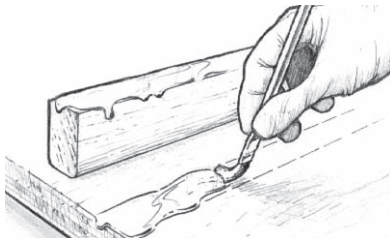

Figure 9 Apply resin/hardener mixture to the bonding surfaces.
1. **Wet-out bonding surfaces**—Apply an unthickened resin/hardener mixture to the surfaces to be joined (Figure 9). Wet out small or tight areas with a disposable brush. Wet out larger areas with a foam roller or by spreading the resin/hardener mixture evenly over the surface with a plastic spreader. You may proceed with step two immediately or any time before the wet-out coat becomes tack free.